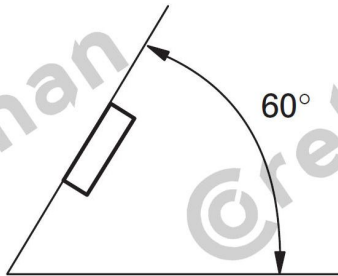

Fig.2
- If installation angle exceeds  $60^\circ$  from horizontal, the Head Unit might not give its optimum performance. (Fig. 2)